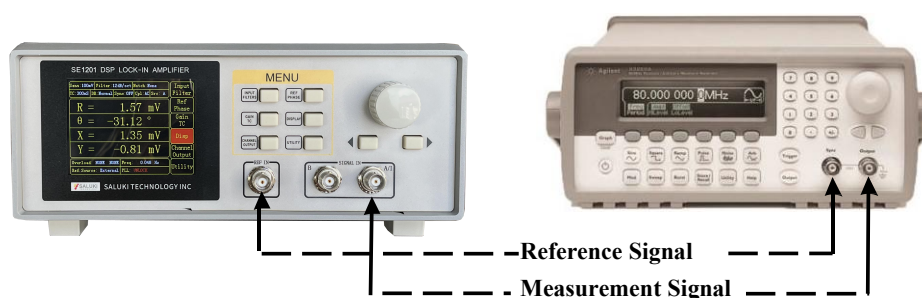

Fig.63 Signal Cable Connection Diagram
2. Use a BNC cable to connect the output of the function signal generator and the A/I input of the SE1201. Use another BNC cable to connect the reference signal of the function signal generator and the REF IN of the SE1201, as is shown in Fig.63.